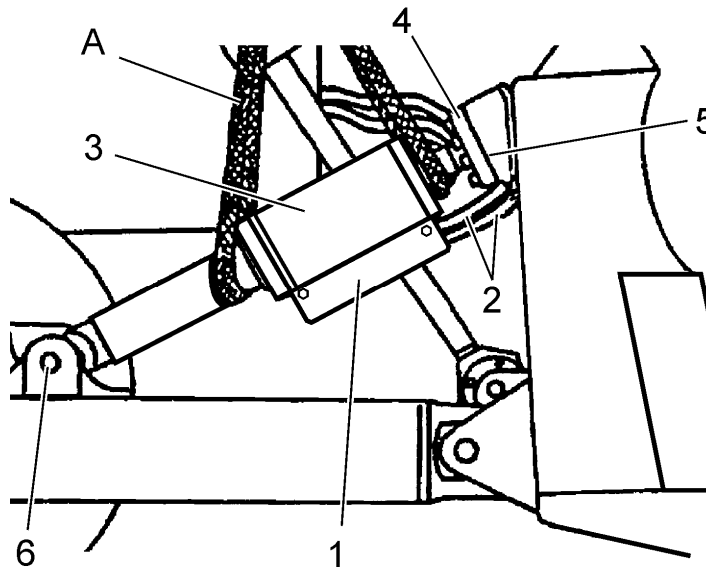

Fig. 10C.5. Bulldozer Blade Tilt Cylinder Removal
1. Remove the hoses guard (1, Fig. 10C.5) and disconnect hoses (2) at the tilt cylinder (3) and position out of way.
2. Attach a hoist sling (A) to the tilt cylinder (3). The hoist must be installed to give the best possible balance. Place tension on the hoist.
3. Remove the bolts securing the socket cap (4) to the blade and move the cap off of the blade. Keep the socket cap shims (5) with the blade.
4. Remove the pin (6), then remove the cylinder (2) from machine.